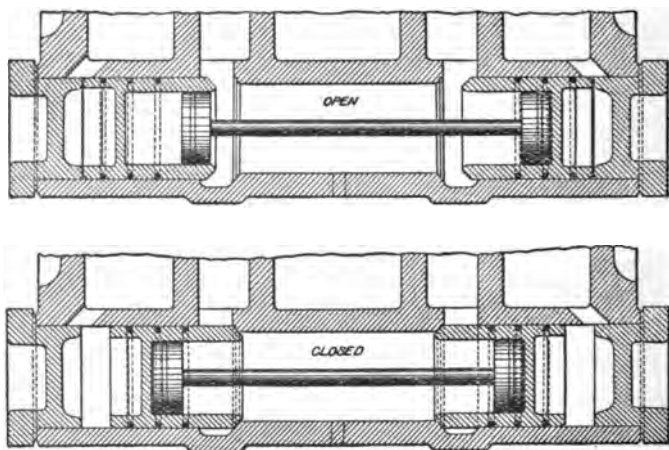

FIG. 67.—SECTION OF BY-PASS VALVE OF RICHMOND COMPOUND LOCOMOTIVE IN OPEN AND CLOSED POSITION.
A. As the function of these valves is, when open, to permit the passage of air to and fro from one end of the cylinder to the other, when the engine is in motion with the steam cut off, it follows that if they are stuck open as in Fig. 67, steam entering one end of the cylinder will have access to the other also, with the result that its effect upon the piston will be nullified. It amounts to the practical cutting out of the low-pressure cylinder to which they are applied.